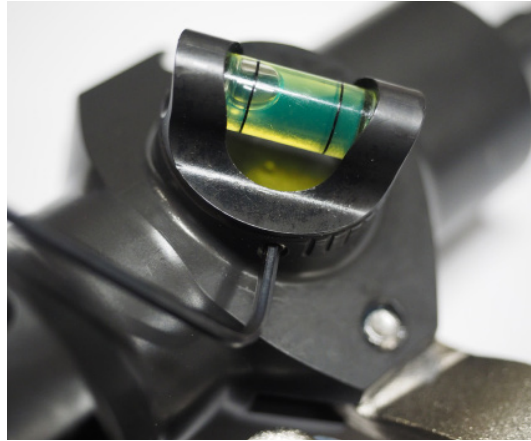

Fig. 4.1 Loosen the two grub screws with the Allen key to adjust the angle setter.
4.1 Loosen the two grub screws on the angle setter with the supplied Allen key until you can freely turn the angle setter (Fig. 4.1).